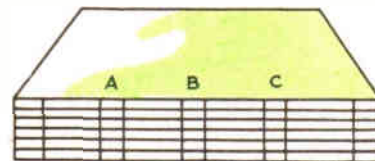

Fig. 3
another one the same distance from the tail. Between these, mark the positions of the tapes ($\frac{1}{4}$ in.) (A), (B) and (C). (Fig. 3).